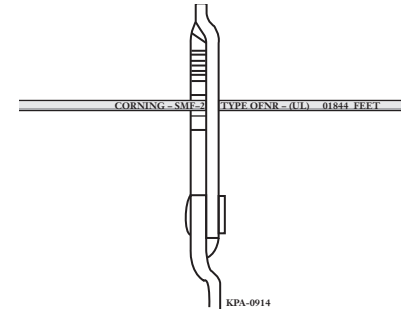

Figure 8 — Cut the Jacket
- Step 2:** Squeeze the jaws shut to cut the jacket (Figure 8). If the material is not cleanly cut with the first effort, rotate the tool slightly and complete the cut. Remove the tool and carefully slide the jacket off the yarn by hand.